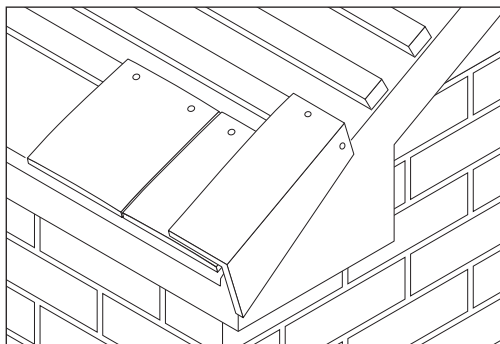

Fig 3 Eaves course
- 4 Nail the eaves cloak verge tile with 2 No. 38mm x 3.35mm aluminium or stainless steel ring shank nails to both top and end of the tiling batten using the holes in the top and vertical leg. Alternatively, if the verge construction allows, a timber batten can be secured to the outer edge of the bargeboard or gable wall to assist nailing the vertical leg of the cloak verge tile (Fig. 3).